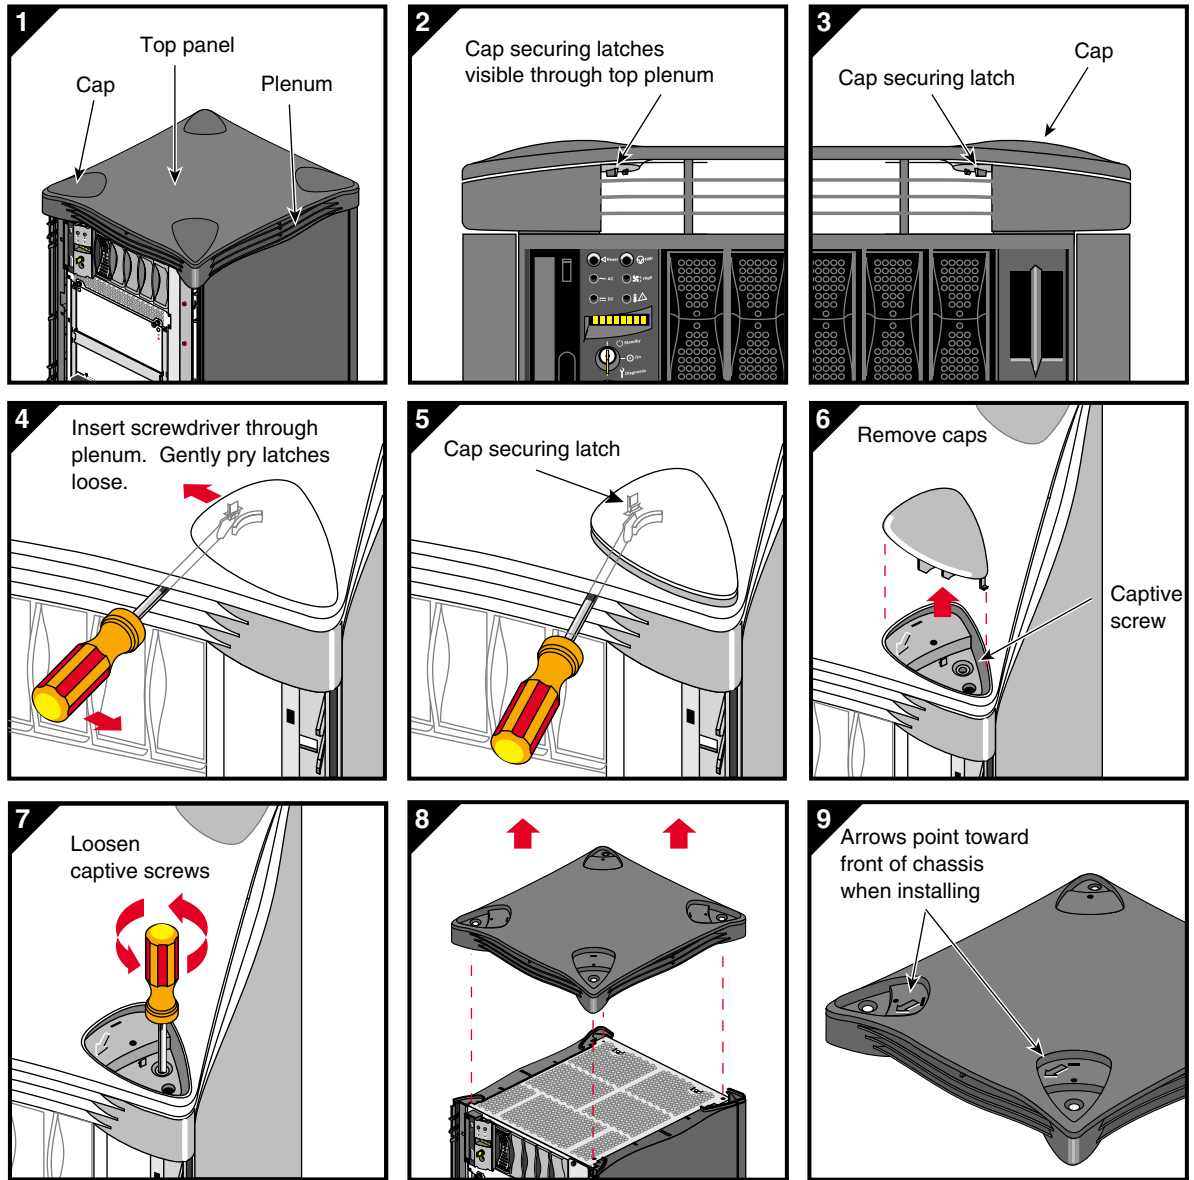

Figure 3-3 Removing the Top Plastic Panel
4. Remove the top cover by first removing the four corner-positioned cover "caps." Use a screwdriver to release the latch for each one (see Figure 3-3).